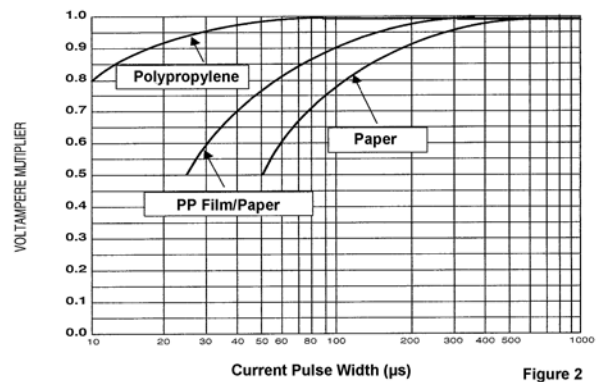
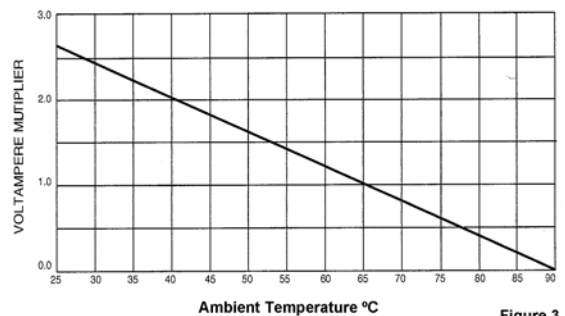

Figure 2
Figure 3
The capacitor's maximum VA rating is the maximum product of the sine wave voltage and current that may be applied at 65 °C without overheating the capacitor and reducing its expected life. For other temperatures and pulsed current, use the multipliers of Figures 2 and 3 to derate the Max VA rating.
4. Check that your application's volt-amperes is not more than the capacitor's VA capability. The VA capability is the max VA rating times the Volt-Ampere multiplier from Figure 2 (Current Pulse Width) and that times the Volt-Ampere Multiplier from Figure 3 (Ambient Temperature). See the following section for more on using volt-ampere multipliers.